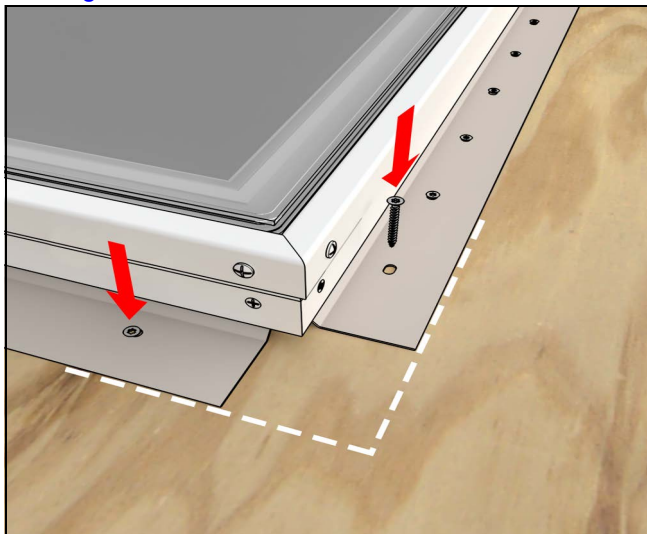

Figure 10
8. Anchor unit with appropriate fasteners, 1-1/2" roofing nails or minimum of #8 x 1-1/2 exterior grade screws, one fastener per pre-drilled hole in mounting flange. See Figure 10.